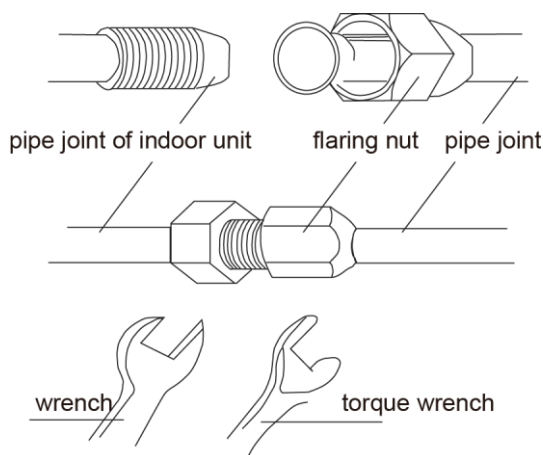

Fig 4.2.1
- (1) Aim the flaring port of copper pipe at the center of screwed joint and then tighten the flaring nut with hand as shown in fig 4.2.1.
- (2) Tighten the flaring nut with torque wrench.